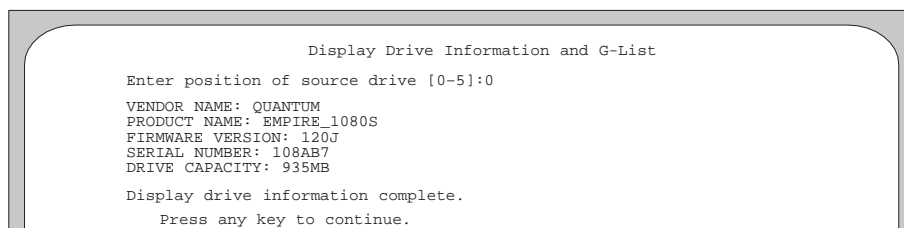

Figure A-24. Example of Display Drive Information and G-List Screen.
2. At the ***Enter position of source drive [0-5]:*** prompt, select a drive, and press ***Enter***. Drive information appears on the screen, as shown in the example in Figure A-24.